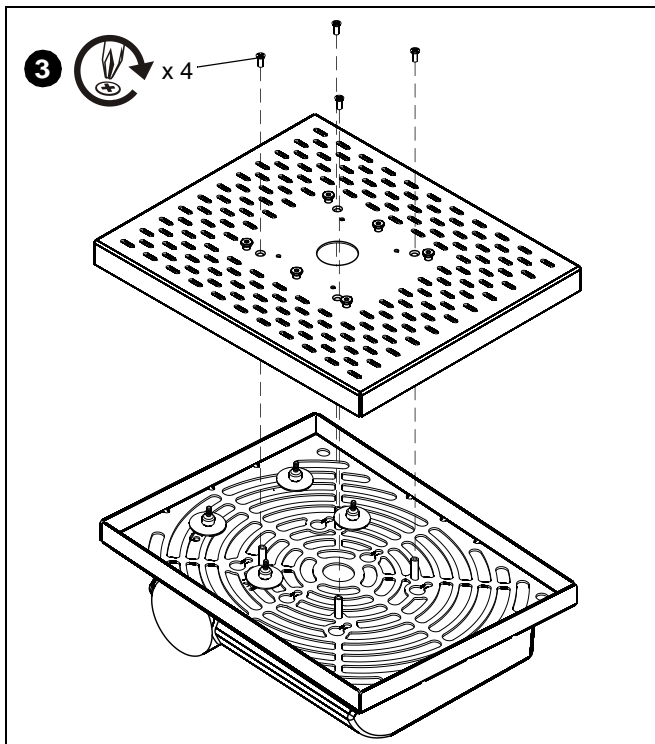

Figure 6
- Attach RPMA1 bottom to RPMA1 top using four Phillips screws removed in Step 5 of **Installing Ceiling Plate and Disassembling RPMA1**. (See Figure 6)